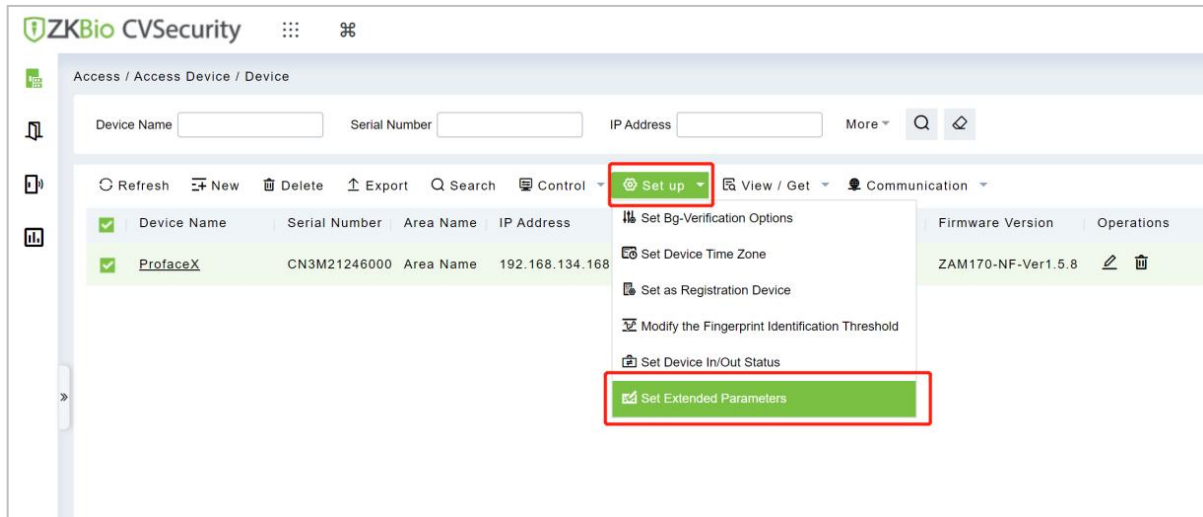

Figure 13-2 Setting Interface of Epidemic Prevention Parameters
Step 3: In the interface of setting extended parameters, you can view the epidemic prevention parameters on the device, as shown in Figure 13-2. Please refer to Table 13-1 for parameter configuration.